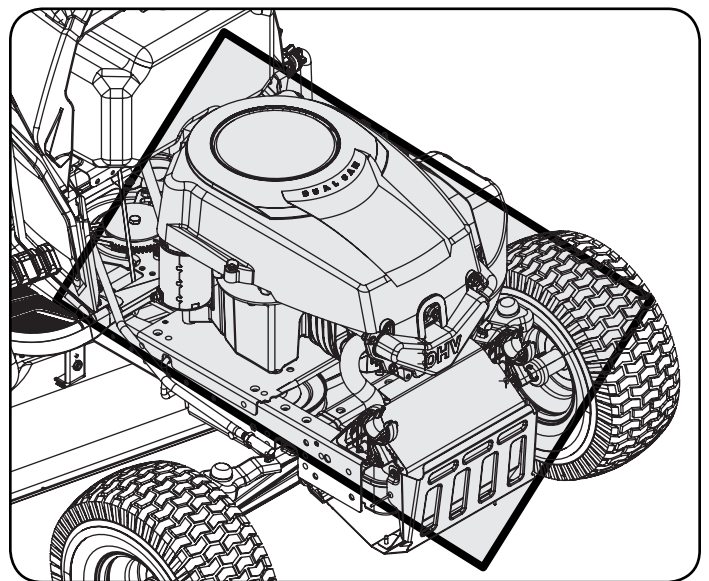

Figure 16
- Clean under the hood. Exhaust manifold, around fuses, all wiring and harnesses, muffler pipe, muffler shield, engine intake screens and cooling fins, etc. See Figure 16.